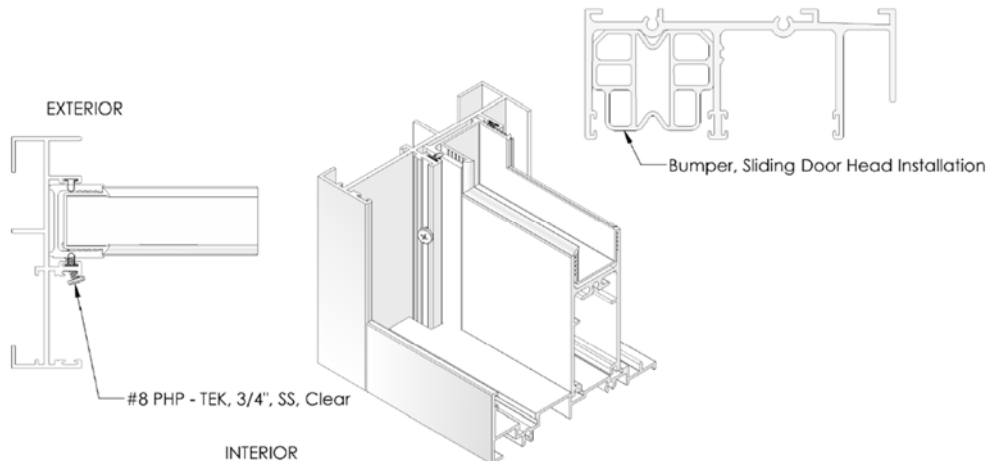

Figure 19:
11. Install (1) #8 x 3/4" PHP TEK security screw into the predrilled hole in the mohair channel (below the glass line), near to the bottom of the fixed jamb (Figure 19).